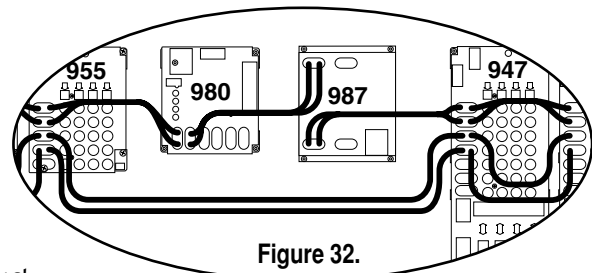

Figure 32.
- The Left and Right Audio Bus begins in the Source Product Group, and continues through the BUS IN and BUS OUT jacks of the 980EZ (or the 988 module) and then on through the Receiver Product Group. If a 902 Control Panel is present, the 987 EVC module fits into the audio bus right after the 980 System Module (Figure 32).